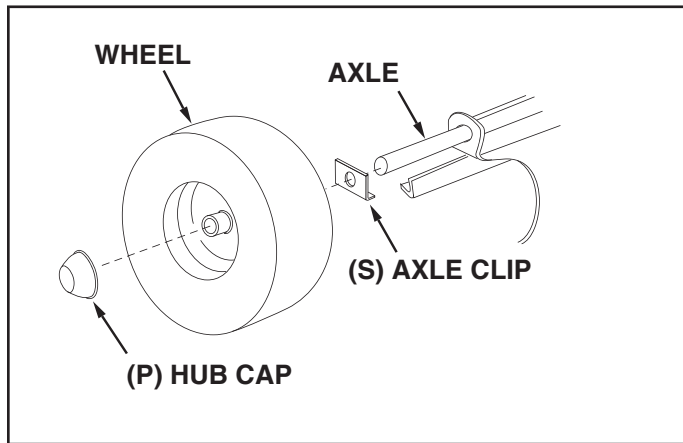

FIGURE 6
STEP 6: (SEE FIGURE 6)
- Assemble an axle clip (S) and a wheel with the valve stem facing out onto the axle. Assemble a hub cap (P) by pressing or tapping it onto the axle. Repeat on other end of axle.